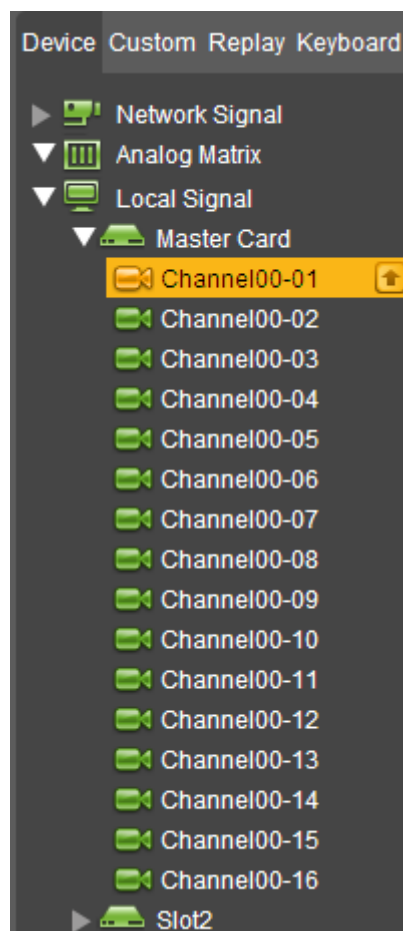

Figure 3- 4
Step 1. In Device or Custom, select signal source. For example, see Device tab as in Figure 3- 4.